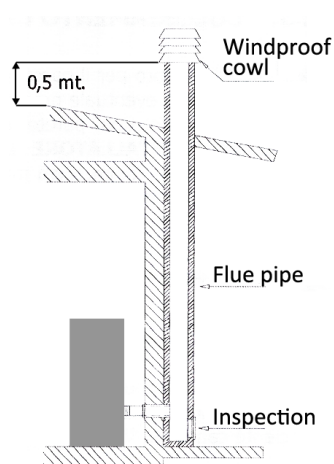

Fig. 2: connection to the flue pipe.
- The chimney cap must be positioned in such a way as to guarantee the adequate dispersion and dilution of the products of combustion and in any case, must be out of the reflux zone. This zone has different dimensions and forms according to the angle of inclination of the roof so it is necessary to adopt minimum heights (Fig. 2).